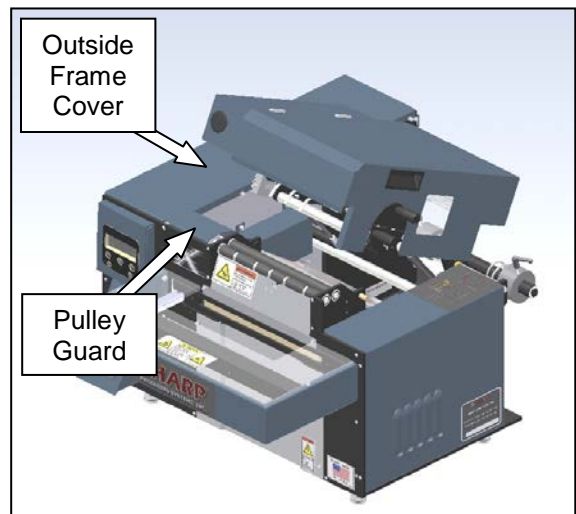

Figure 3-158. Guard Identification
1. Remove the outside frame guard and the pulley guard (Figure 3-158).